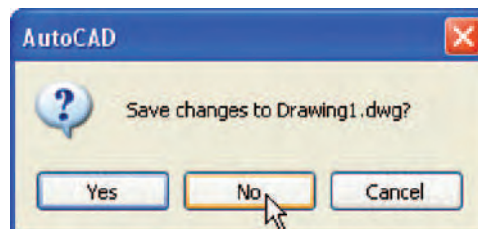

Fig. 2.5 The **AutoCAD** warning window
2. The warning window (Fig. 2.5) appears in the centre of the screen. *Click* its **No** button.